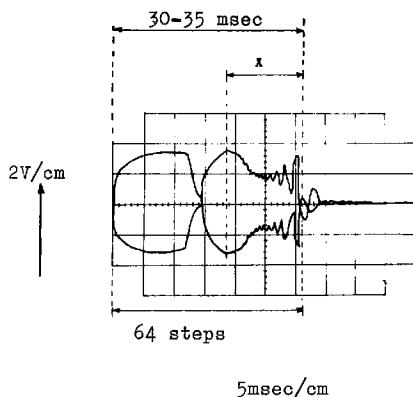
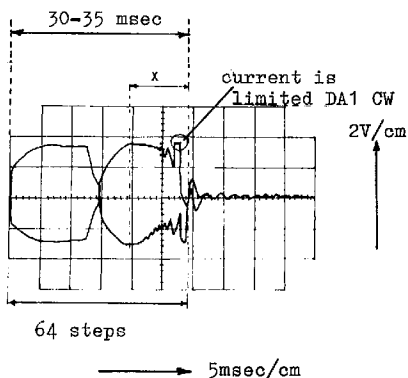

Fig. 7-5
Fig. 7-6
- 2) Turn potmeter VX3 (CS) fully CCW then ca 4 turns CW.
- 9) Turn potmeter DA1 CCW (speed is increased) till the current is correct, see fig.7-5 with due regard to mentioned on point 11. When the speed becomes higher turn VX3 CW till it is correct, see fig.7-6 and 7-7
The current should not be limited, fig. 7-6/7-7.